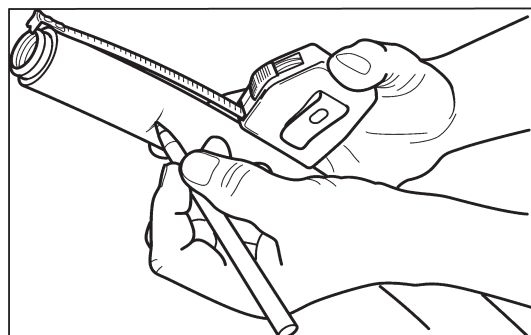

Figure 4-53
2. Mark the sleeve at the specified length on the Strip Length Chart Table 4-10 - plus 2 inches (Figure 4-53).